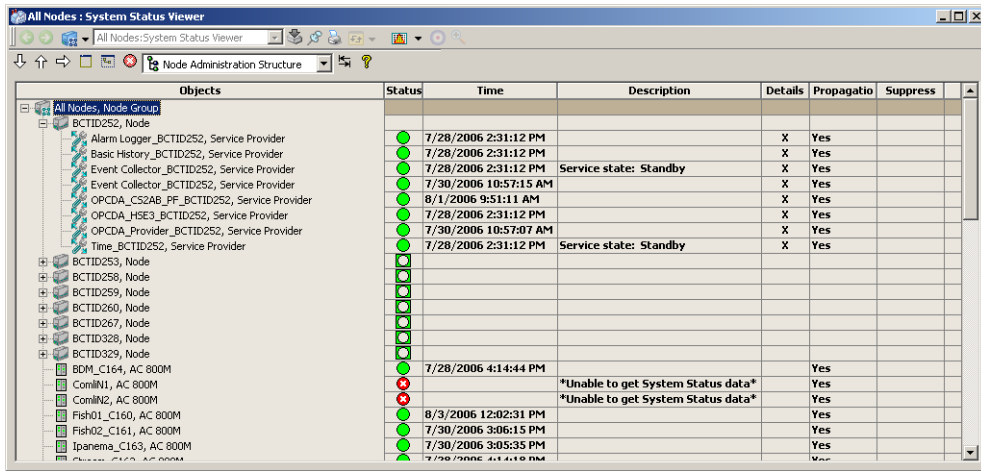

Figure 98. The System Status Viewer with status for Servers and Controllers
- The node group “All nodes” in the Node Administration structure, see Figure 98. Here all servers and controllers are available.
From the node alarm it is easy to navigate to the corresponding node object in the node administration structure via the objects context menu, see Figure 98 on page 232.